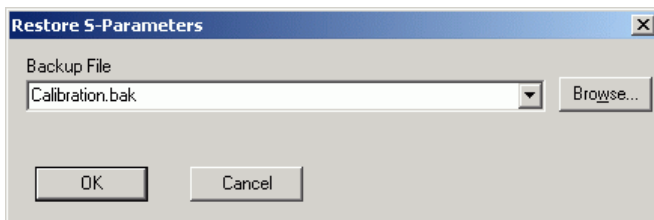

Fig. 3-4 Dialog window for loading the backup file of a calibration data set
1. Press the **Restore...** button. The **Restore S-Parameters** window is opened (Fig. 3-4).